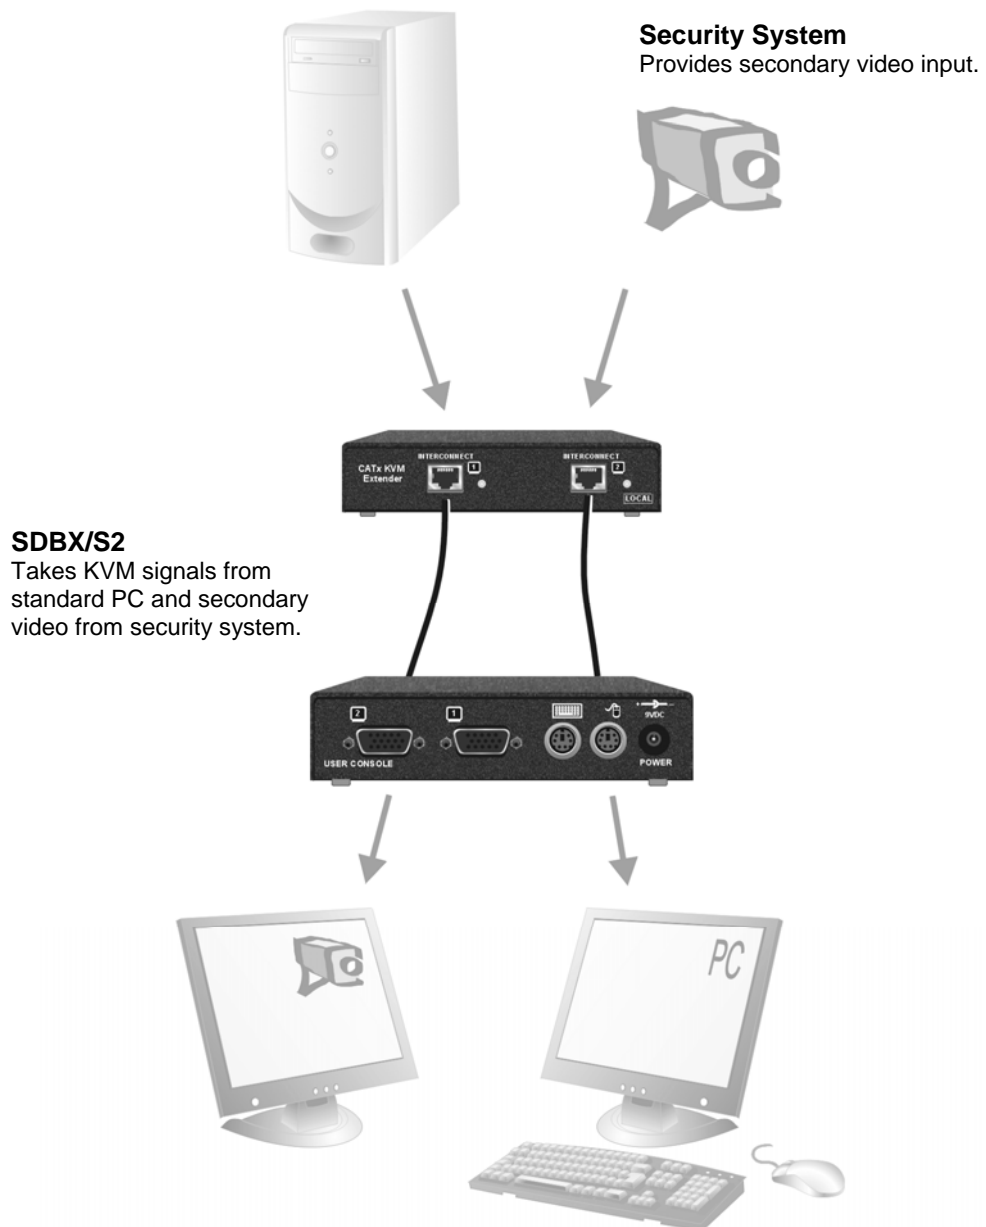

Figure 18 Extender system with second screen for security monitoring
- Extender system with second screen for security monitoring (Figure 18).